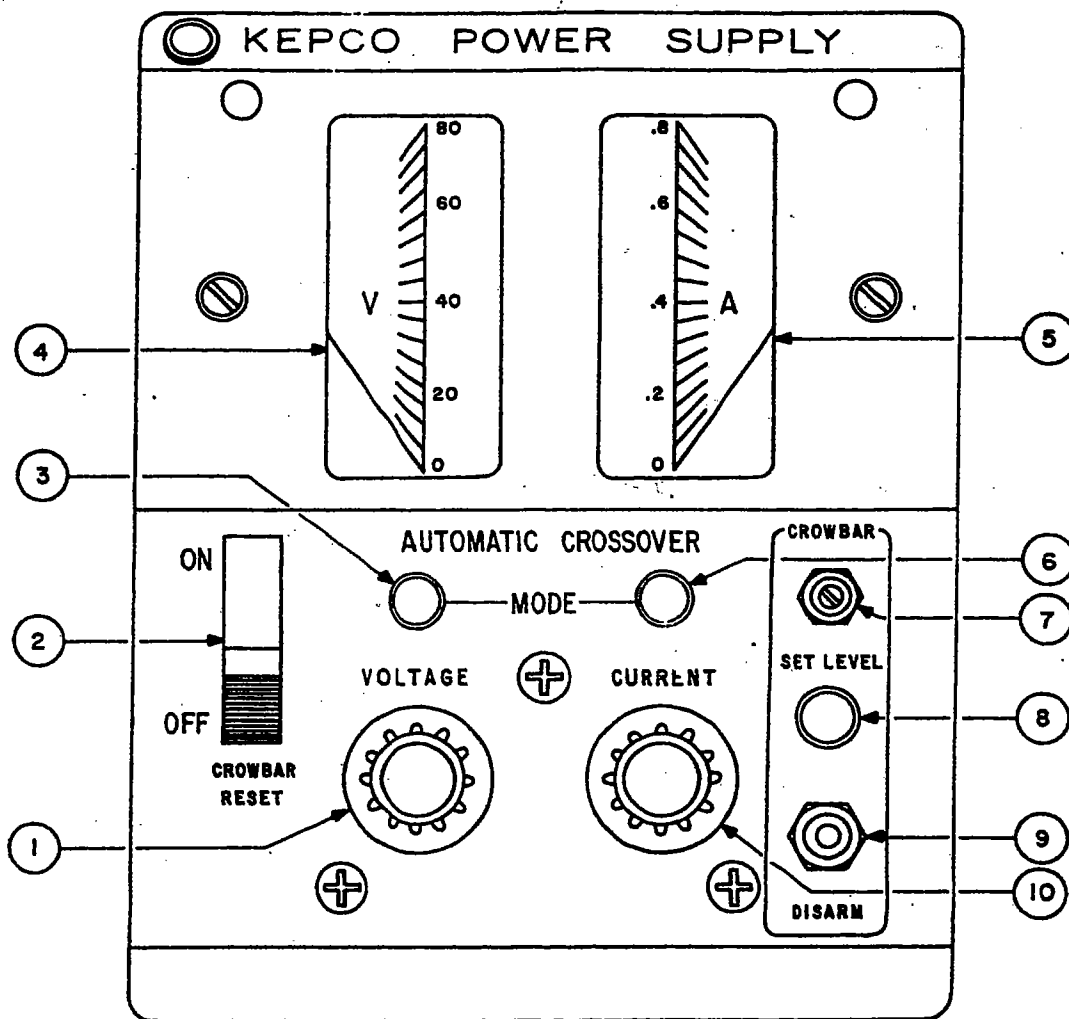
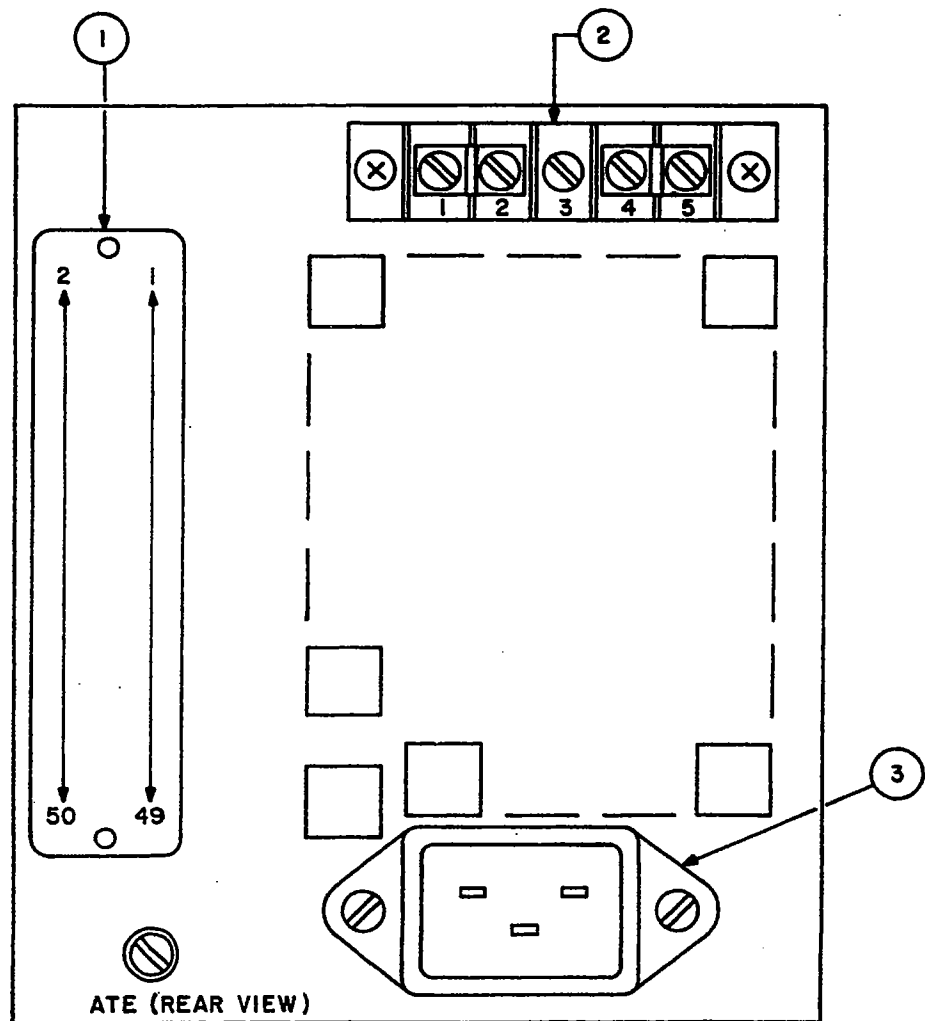

FIG. 2-2 CONTROLS AND TERMINATIONS, ATE 1/4 RACK GROUP, FRONT.
FIG. 2-3 TERMINATIONS, ATE 1/4 RACK GROUP, REAR.
- a) FRONT PANEL: Refer to FIG. 2-2 and Table 2-2.
- b) REAR: Refer to FIG. 2-3 and Table 2-3.
- 2-9 A simple operating check after unpacking and before permanent installation is advisable to ascertain whether the power supply has suffered damage resulting from shipment. Refer to FIG. 2-2 and to FIG. 2-3 for the location of the operating controls and output terminals.
- To reset the adjusted crowbar point, press DISARM button again and advance VOLTAGE CONTROL clockwise. Note voltage at which the CROWBAR INDICATOR lights up. Readjust LEVEL control if necessary, by repeating step (2) and check again by repeating steps (3) and (4).